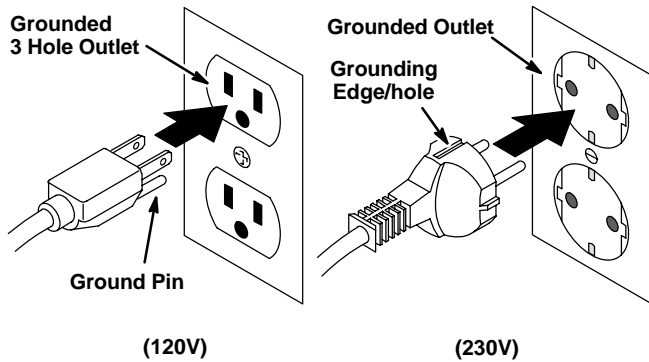

FIG. 18
- Then plug charger's power supply cord into a grounded wall outlet (Figure 18).